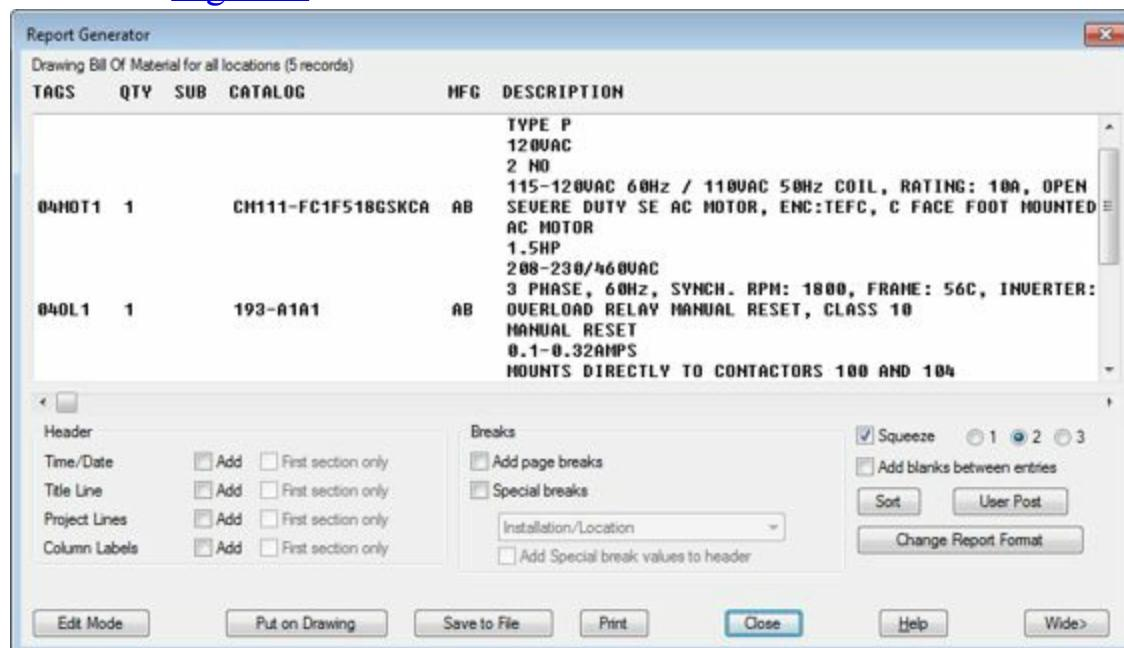

Figure-5. Report Generator dialog box
- Click on the **OK** button from the dialog box. The **Report Generator** dialog box will be displayed; refer to Figure-5.